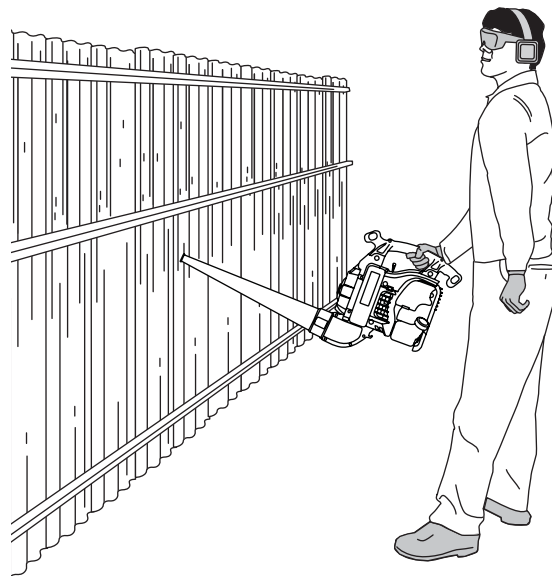

Fig. 19
3. Use the blower around walls, overhangs, fences and screens (Fig. 19).